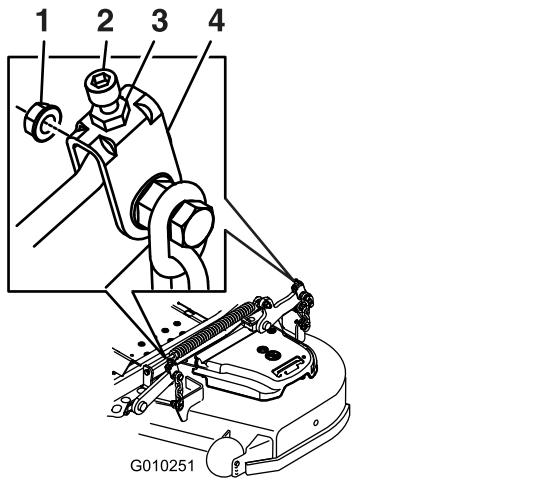
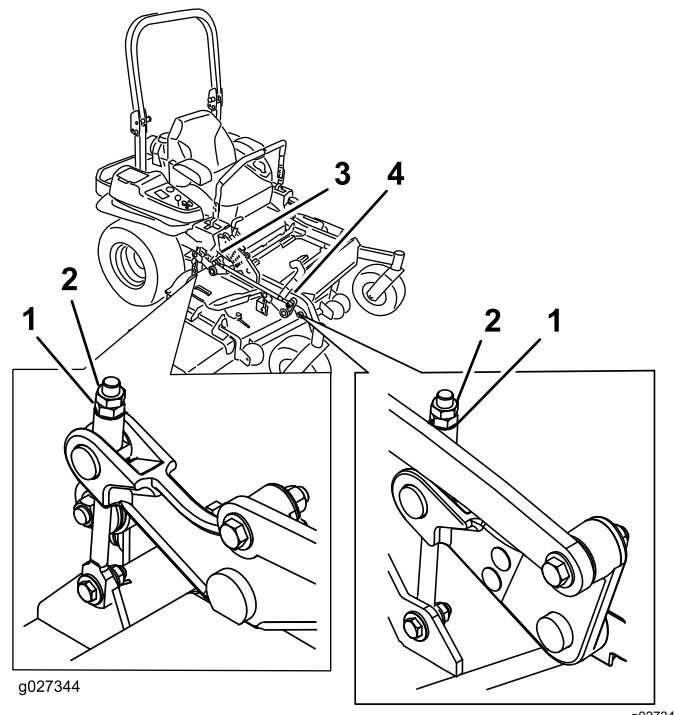

Figure 125
Figure 126
10. Fine-tune the adjustment nut on the front deck-lift assembly by turning it (Figure 125 or Figure 126).
16. Fine tune the screw adjuster by turning it to get 8.3 mm (3-1/4 inches) height (Figure 126). To increase the height, turn the adjustment nut clockwise; to decrease, turn counterclockwise.